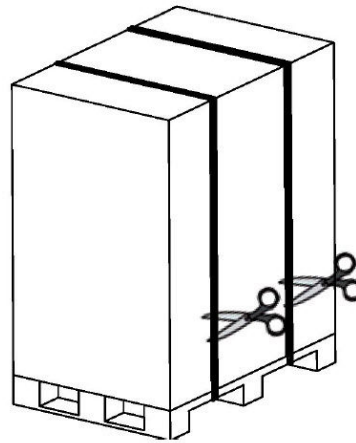

Fig. 1
1. Remove the shipping carton from the pallet. Fig. 1